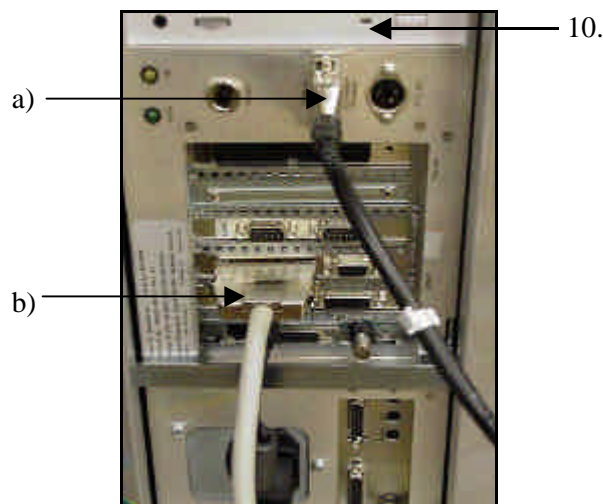

Figure 12: Computer cable connections
- 10. Inside the conversion station cabinet (**Figure 12**):
- a) Connect the black scanner cable to the Scanner Power connector (Com 4) on the computer. Tighten screws (2).
- b) Connect the gray video cable to the video connector (Video) on the computer (**Figure 12**).